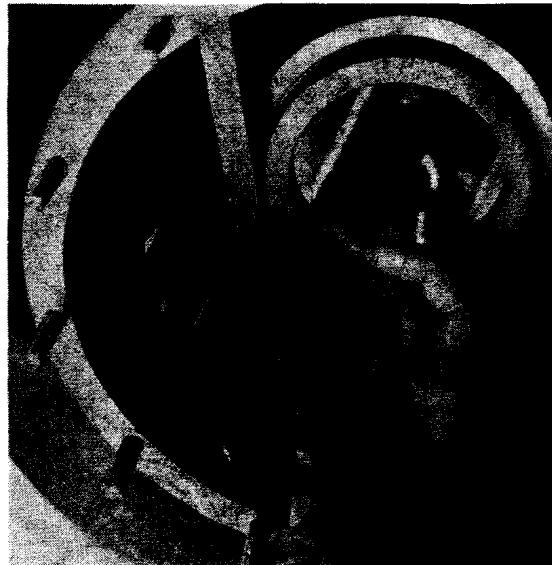

Fig. 5 With pinion in the setting gauge, a feeler gauge is used to measure clearance.
2. Place a $\frac{1}{2}$ " parallel bar across the pinion, as illustrated. Hold it flat and square with the pinion face. Measure the clearance between the bar and the setting gauge (**Fig. 5**). **Correct** clearance is etched on the pinion.